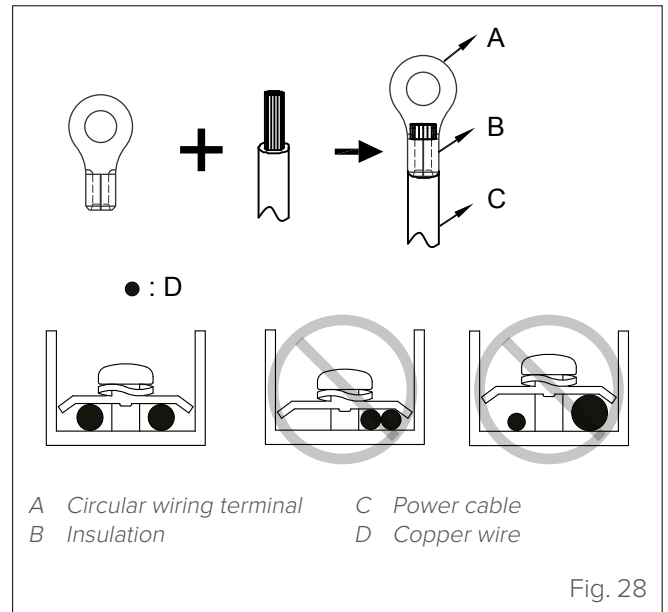

Fig. 28
To connect to the power supply terminal, use the insulated ring terminal “Fig. 28”.
- Do not connect two power cables with different diameters to the same terminal (this can cause the cables to overheat due to loose wiring) “Fig. 28”.